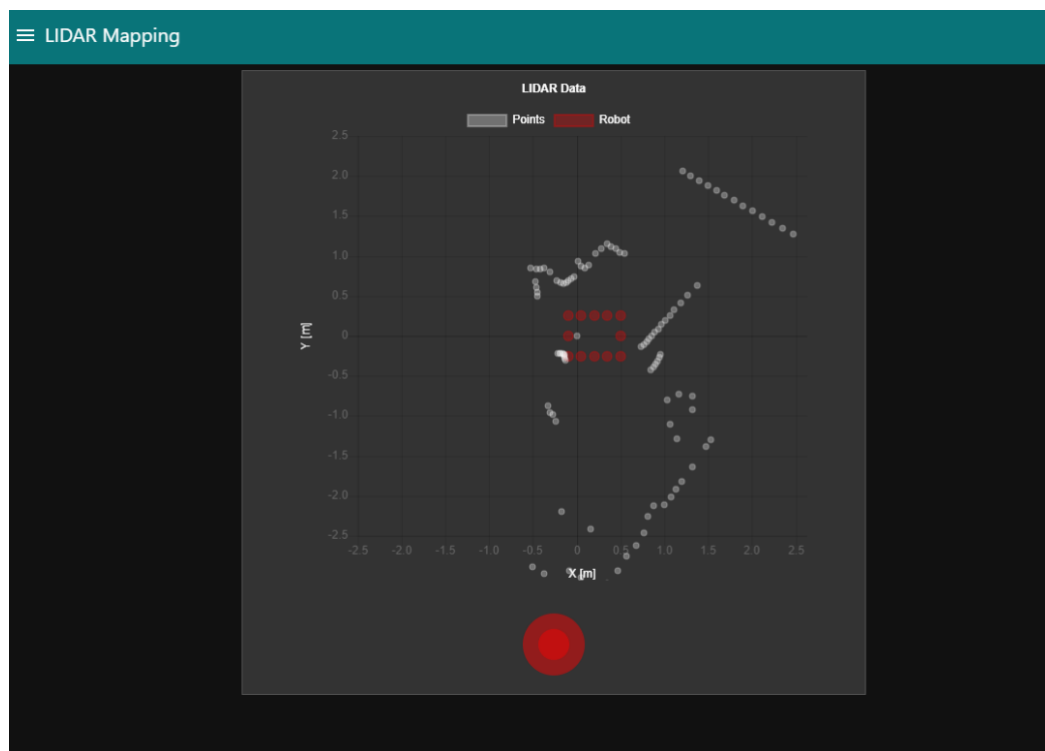

Figure 5: LIDAR Visualizer Example
4. Open your NodeRED dashboard and find the tab containing the LIDAR visualizer, which should look similar to figure 5.